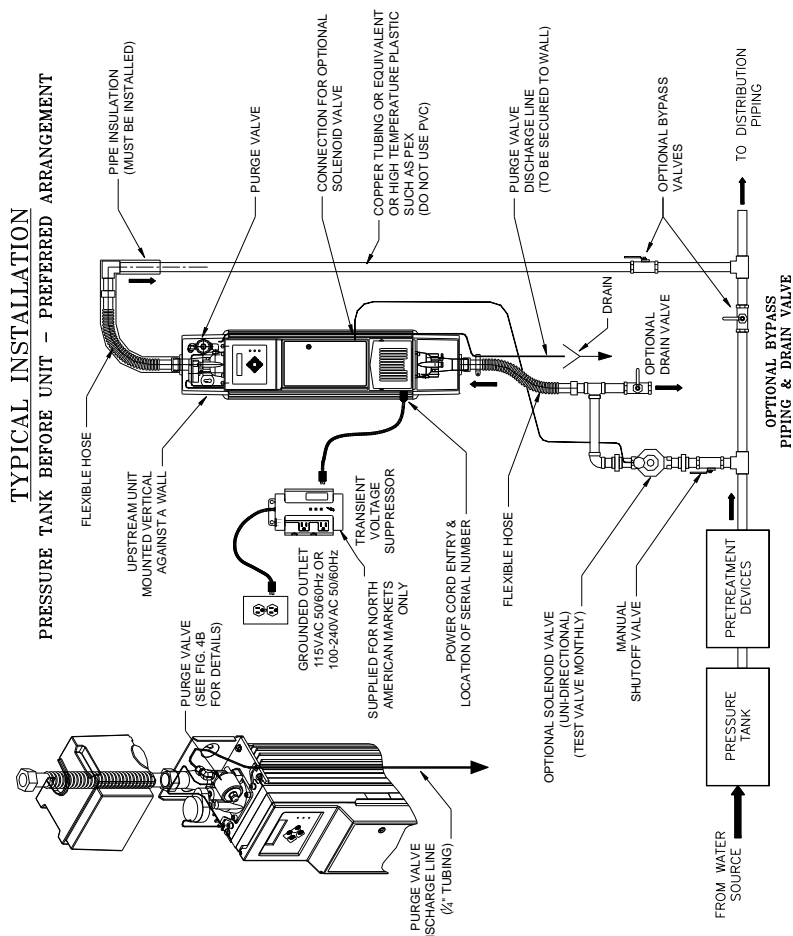

Figure 1B
It also requires male NPT fittings for the hose connections and also for the optional solenoid valve (1" or 1.5"). The Upstream unit requires a drain for purge valve discharge line. These fittings, pipe insulation, and any piping compatible with the plumbing should be on hand before you begin installation. See Figure 1B and make a list of all necessary components including solder, paste and thread sealant. Bypass piping and valves that isolate the unit are optional, (but recommended) as is a drain valve for draining the unit.
Step 2: If you have decided to install an optional bypass line and drain, you may begin to install these fittings at this point. See Figure 1B or 1C for more information on how to connect optional bypass piping and drain.
Step 2: Plug the female end of the power cord into the power entry module located on the left side of the front panel. The power cord must be removed before front panel can be opened. See Figure 1B or 1C. Plug the male end of the power cord into the Transient Voltage Surge Suppressor supplied. Plug the Transient Voltage Surge Suppressor into a grounded electrical outlet. Flip the switch on the Transient Voltage Surge Suppressor to ON position.